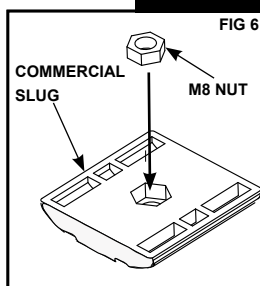

FIG 6
- Insert the M8 Nut into the cavity on the Commercial Slug. Insert the Commercial Slug into the Cross Bar, and align it so that the M8 Nut in the Commercial Slug and the hole at the bottom of the End Support line up (Fig. 6).